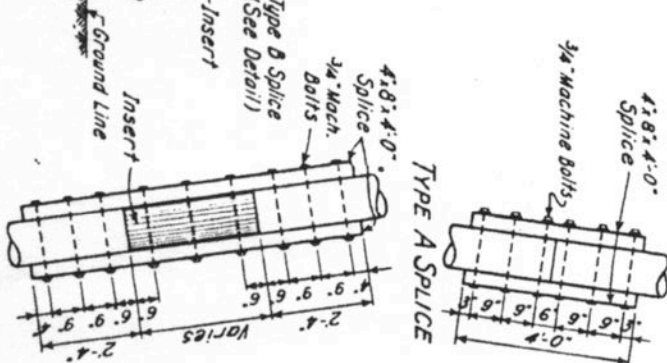

FIG. 6
4. Splice as shown in Fig. 6 will be permitted on branch lines, one to a bent, in high trestles where decay or other defects are spotty.